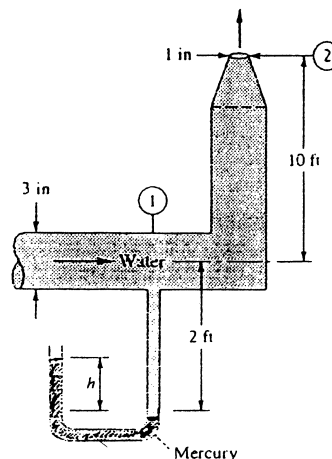

Fig. P3.168
**3.168** In Fig. P3.168 both fluids are at 20°C. If  $V_1 = 1.7$  ft/s and losses are neglected, what should the manometer reading  $h$  ft be?